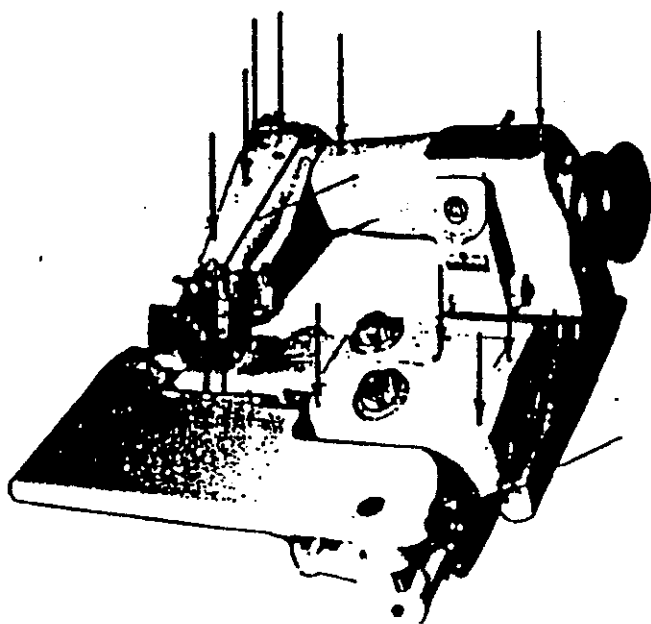

Fig. 1
3. OILING AND MAINTENANCE (Fig 1 & Fig 2)
Drop oil of good quality at all points shown on the oiling chart Fig 1 & Fig 2 before operating machine every day. After oiling, wipe machine carefully to avoid soiling of the material. Be sure to depress knee lifter lever preventing damage to the needle and the feed dog and to operate machine without materials under the presser foot for 2 or 3 minutes.